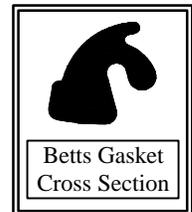

Figure 1
a. **Gasket Inspection:** The collar gasket is the most important component to ensure proper sealing of the manway. Inspect the gasket before each load for nicks, wear or cracking. A damaged or worn gasket must be replaced. Use only genuine Betts Industries replacement gaskets to insure proper manway sealing (see the image of the cross section in figure 1). Select gasket material to ensure compatibility with product carried.